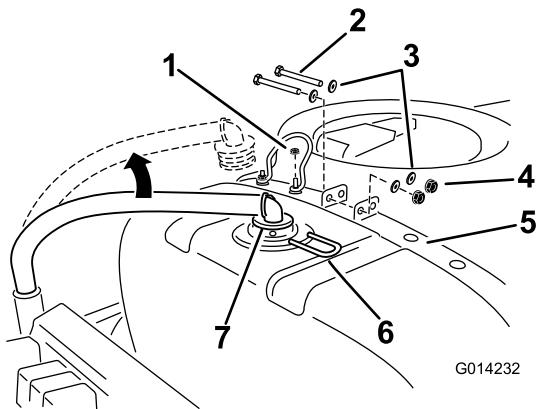

Figure 7
4. Disconnect the supply hose at the rear and top of the main tank (Figure 7).
5. Remove the fork pin that secures the fitting and remove the hose (Figure 7).
7. Remove the inboard locknut that secures the wire tank lid stop to the left rear strap (Figure 7).